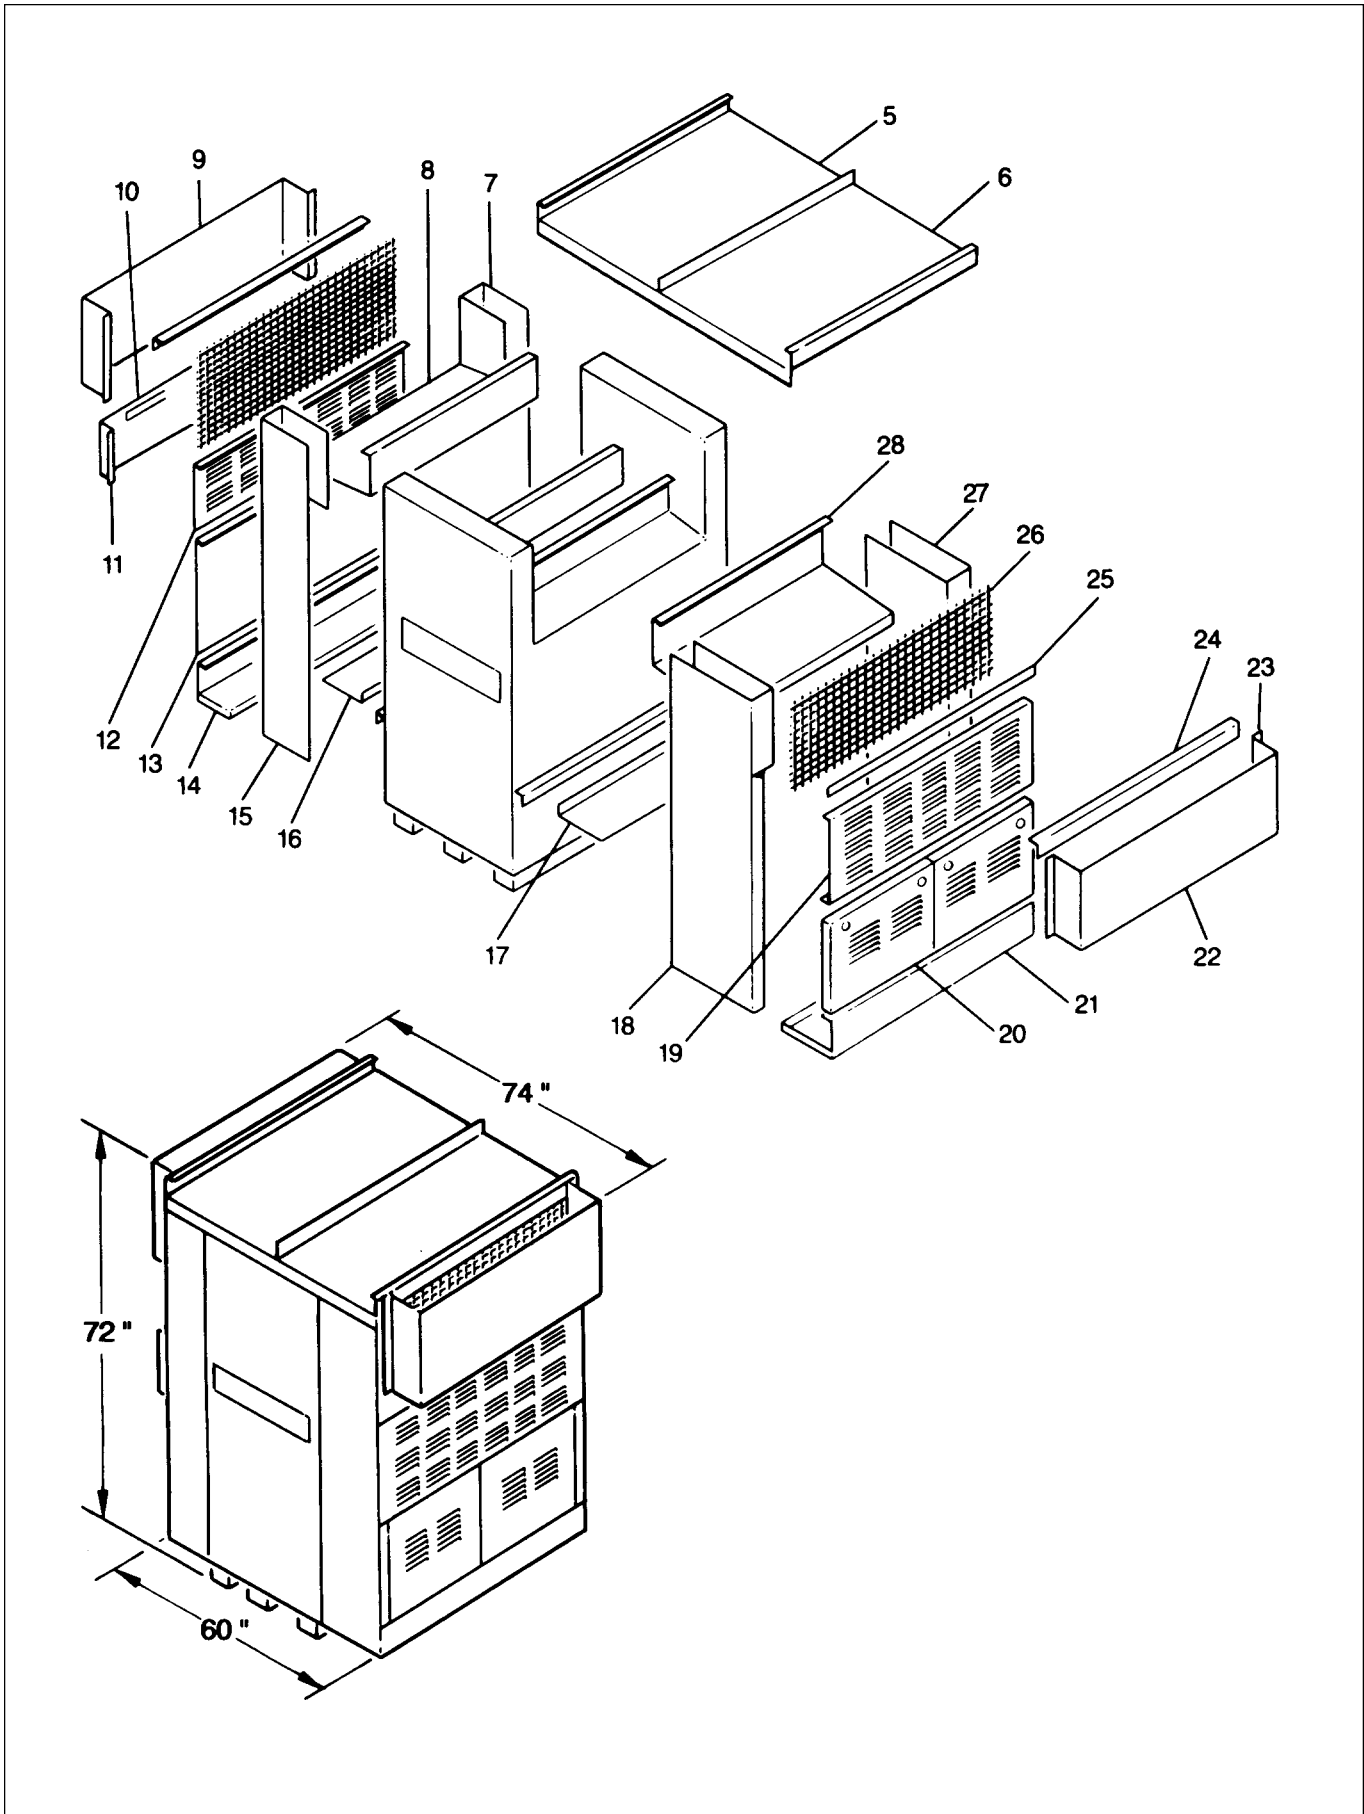

Figure 17. Outdoor Parts Identification.
Figure 17 shows the conversion completed.
##### 6.1.2 SECTION II: (See Figure 17)
**OUTDOOR KIT PARTS LIST (see Figure 17)**